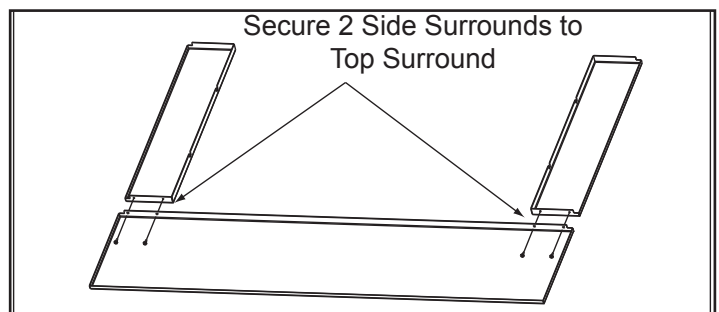

Figure 18.3
2. Using a Phillips head screw driver attach the side surrounds to the top surround using 2 #8 sheet metal screws provided with the kit. **Figure 18.3.**